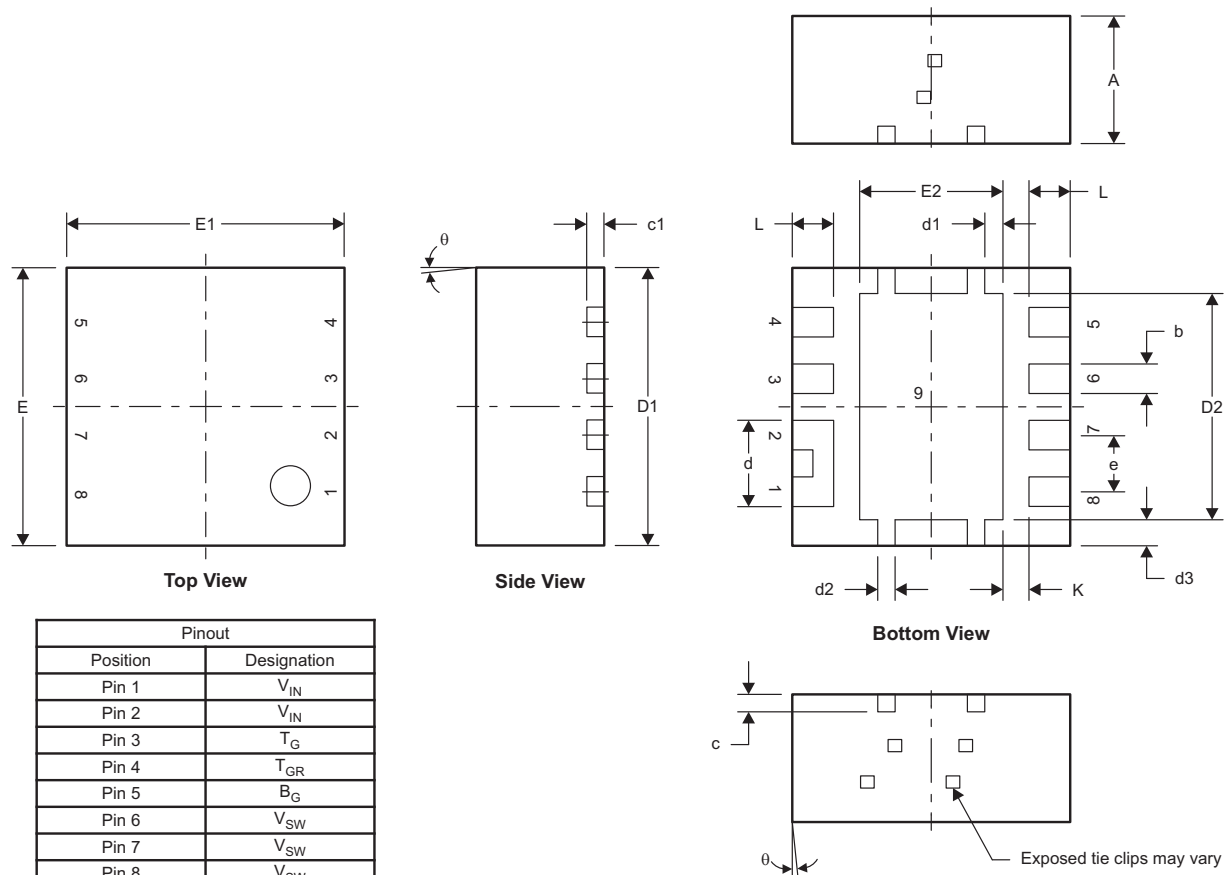

**Figure 34. Recommended PCB Layout (Top Down)**
- The placement of the input capacitors relative to the Power Block's VIN and PGND pins should have the highest priority during the component placement routine. It is critical to minimize these node lengths. As such, ceramic input capacitors need to be placed as close as possible to the VIN and PGND pins (see Figure 34). The example in Figure 34 uses 6 × 10-μF ceramic capacitors (TDK Part # C3216X5R1C106KT or equivalent). Notice there are ceramic capacitors on both sides of the board with an appropriate amount of vias interconnecting both layers. In terms of priority of placement next to the Power Block, C5, C7, C19, and C8 should follow in order.
- Use the smallest drill size allowed in your design. The example in Figure 34 uses vias with a 10 mil drill hole and a 16 mil capture pad.